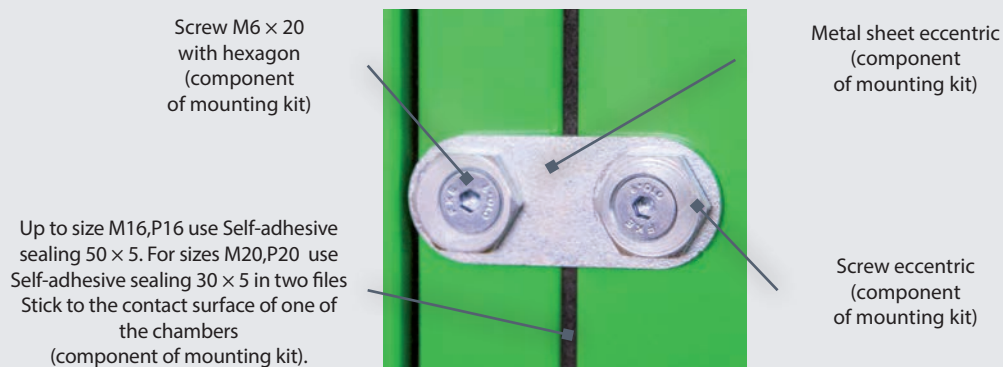

Fig. 1.2: Connection made by using connection eccentrics
- Chambers must be installed to each other and connected by using coupling eccentrics – see Figure 1.2 and the details attached in Figures 1.3, 1.4.